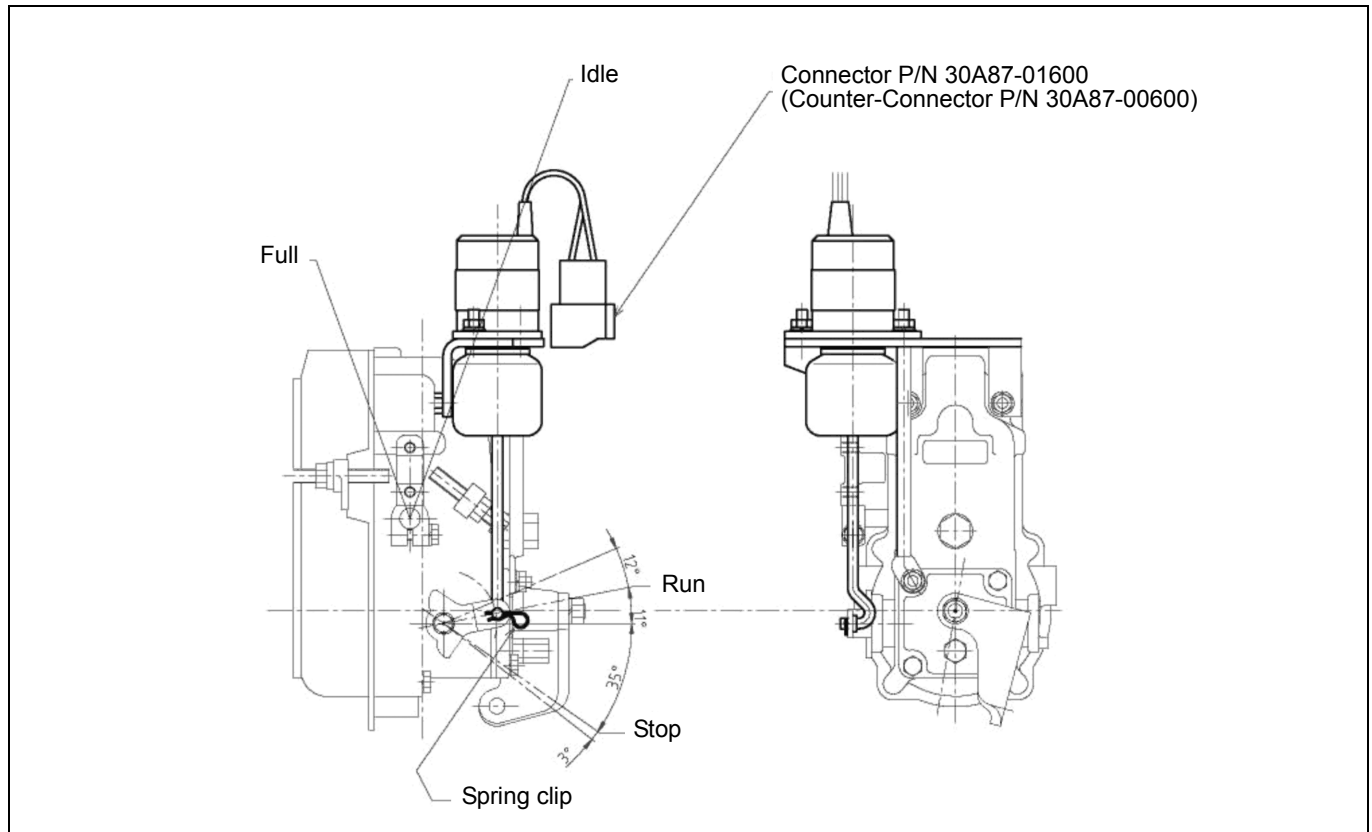

Figure 222
2. Install the connecting rod from inside out to the stop lever and lock it by the spring clip (see Figure 222 on page 163).